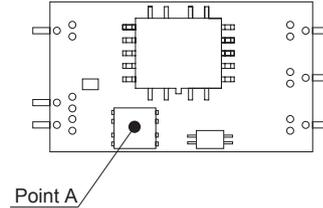

Fig.7.7 Temperature Measuring Point in the case of Forced Air Cooling
① SU10
■ In the case of forced air cooling (1m/s), please have sufficient ventilation to keep the temperature of point A in Fig.7.7 at 105°C or below.